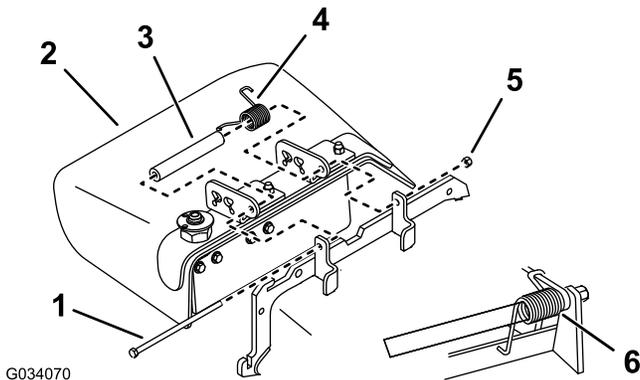

Figure 2
1. Align the discharge-chute bracket with deck bracket and place the new spacer and spring onto the grass deflector (Figure 2).
2. Install the bolt and nut. Place the J-hook end of the spring around the grass deflector (Figure 2).